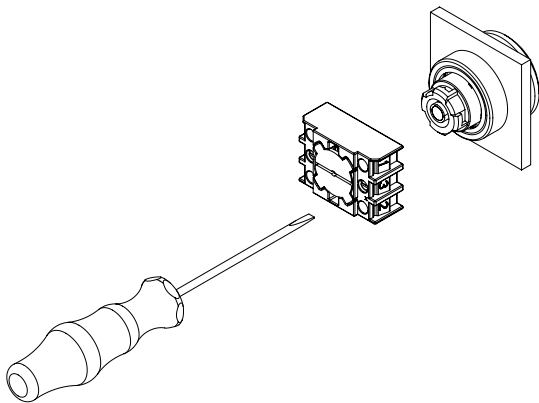

Fig. 1
1. Mount control elements with retaining ring and mounting flange by tightening both screws of mounting flange using size 2 slot screwdriver (see fig. 1)